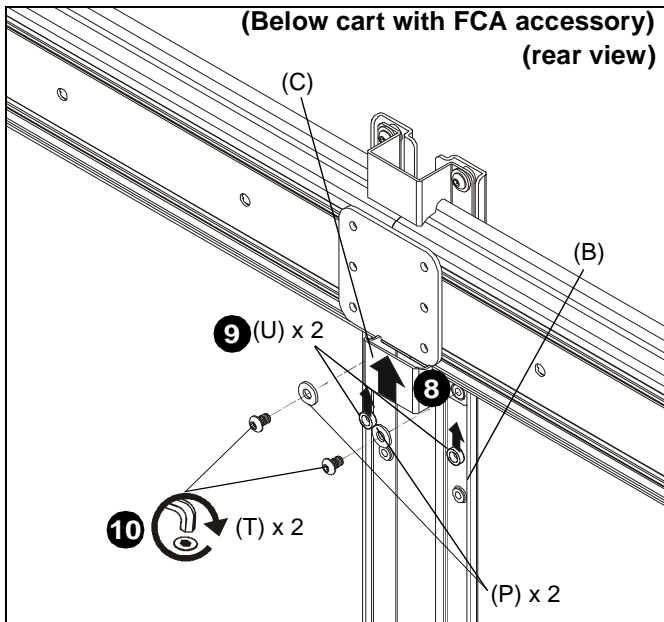

Figure 12
8. Slide second shelf bracket (C) underneath cart mount head assembly, lining up holes on support bracket (C) to holes on main bracket (B). (See Figure 12)
9. Slide two 3/5" spacers (U) in between support bracket (C) and main bracket (B). (See Figure 12)
10. Use two 1/4-20 x 7/16" button head cap screws (T) and two large washers (P) to secure shelf bracket (C) to main bracket (B). (See Figure 12)